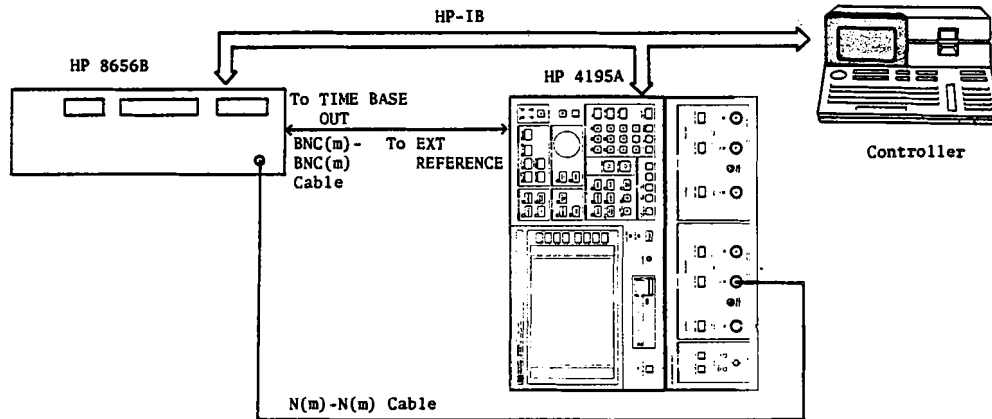

Figure 3-141. First IF Converter Level Fine Adjustments Setup
2. Position the HP 4195A as shown in Figure 3-141.
3. Connect an N(m)-N(m) cable from **INPUT R1** to the Signal Generator **RF OUTPUT** as shown in Figure 3-141.
4. Connect a BNC(m)-BNC(m) cable from the Control Unit rear panel **EXT REFERENCE INPUT** to the Signal Generator **TIME BASE OUTPUT**, as shown in Figure 3-141.